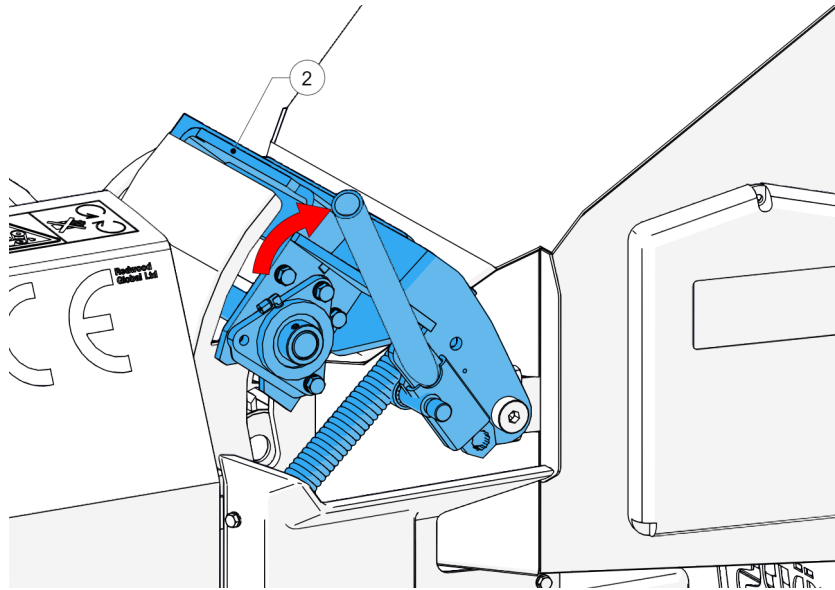

Figure 43 - Raising the top feed roller housing
12. 2x people are needed for this step. One person lifts the top feed roller (2, Figure 43) to the fully open position while the other person, wearing protective gloves and using a piece of wood, carefully clears the blockage from inside the feed chamber.